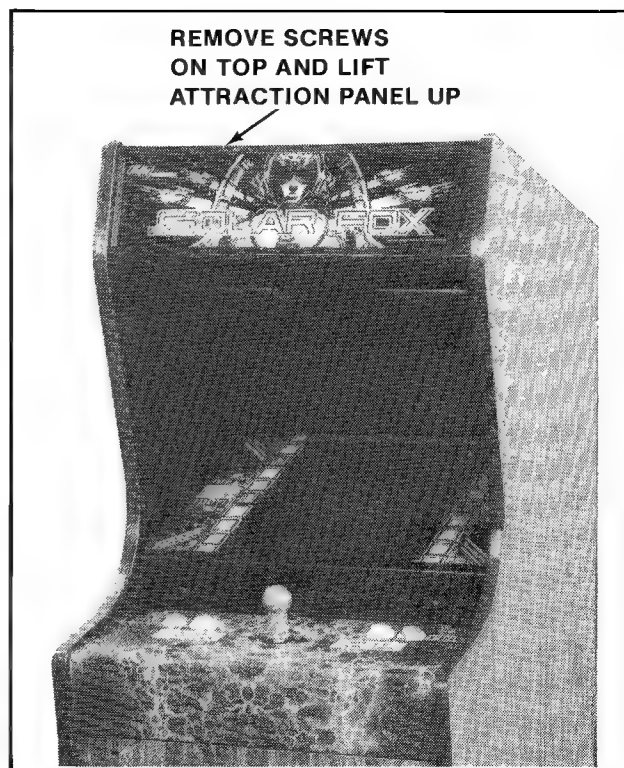

Figure 4-17 Opening the Attraction Panel — Mini
2. MINI MODEL. See Figure 4-17.